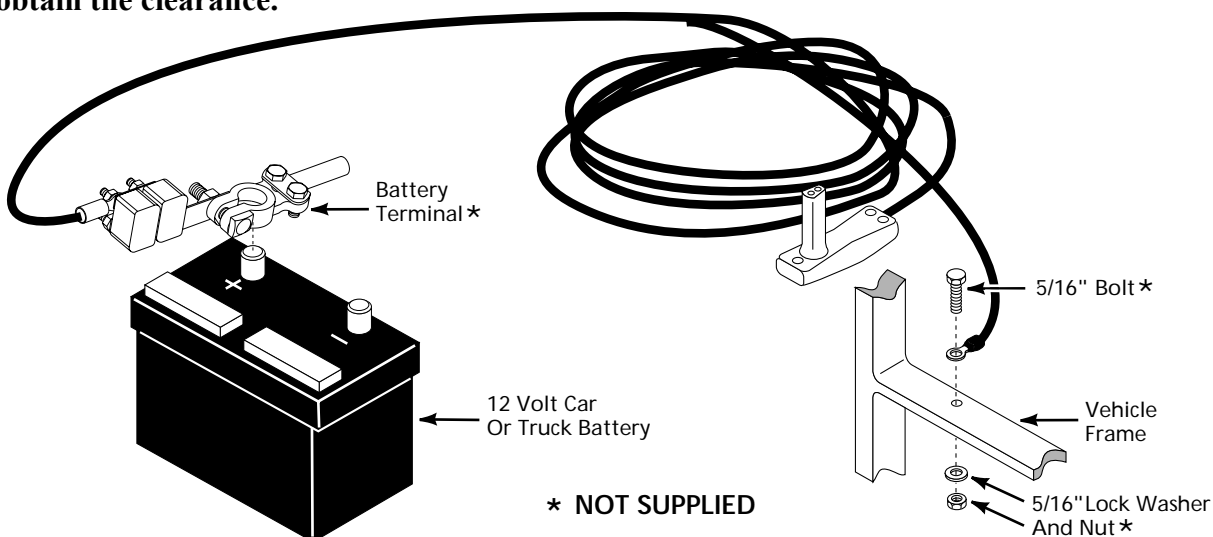

Figure 1 - Permanent Wiring Hookup for Models RC23 & RC30
To permanently wire the winch, refer to Figure 1 follow the outlined procedures.
1. Attach the circuit breaker to the positive (+) battery post or to the positive (+) battery side of the starter solenoid (See Figure 1).